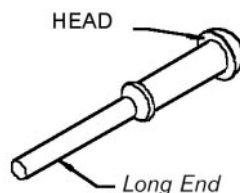

FIGURE 15 Pull Seal
2. Obtain a rubber pull seal from the hardware kit (Part Number 315 2569 001). An extra pull seal is also provided. See FIGURE 15.